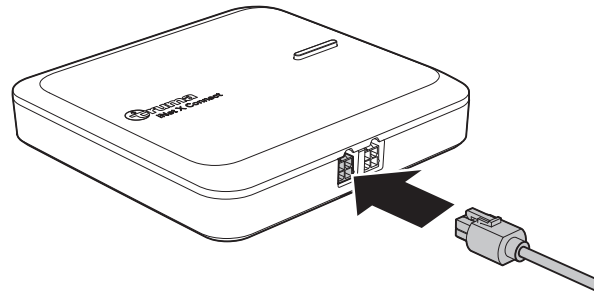

Fig. 18
- Insert the other plug of the cable into the CAN1 connection of the Connect (Fig. 18).